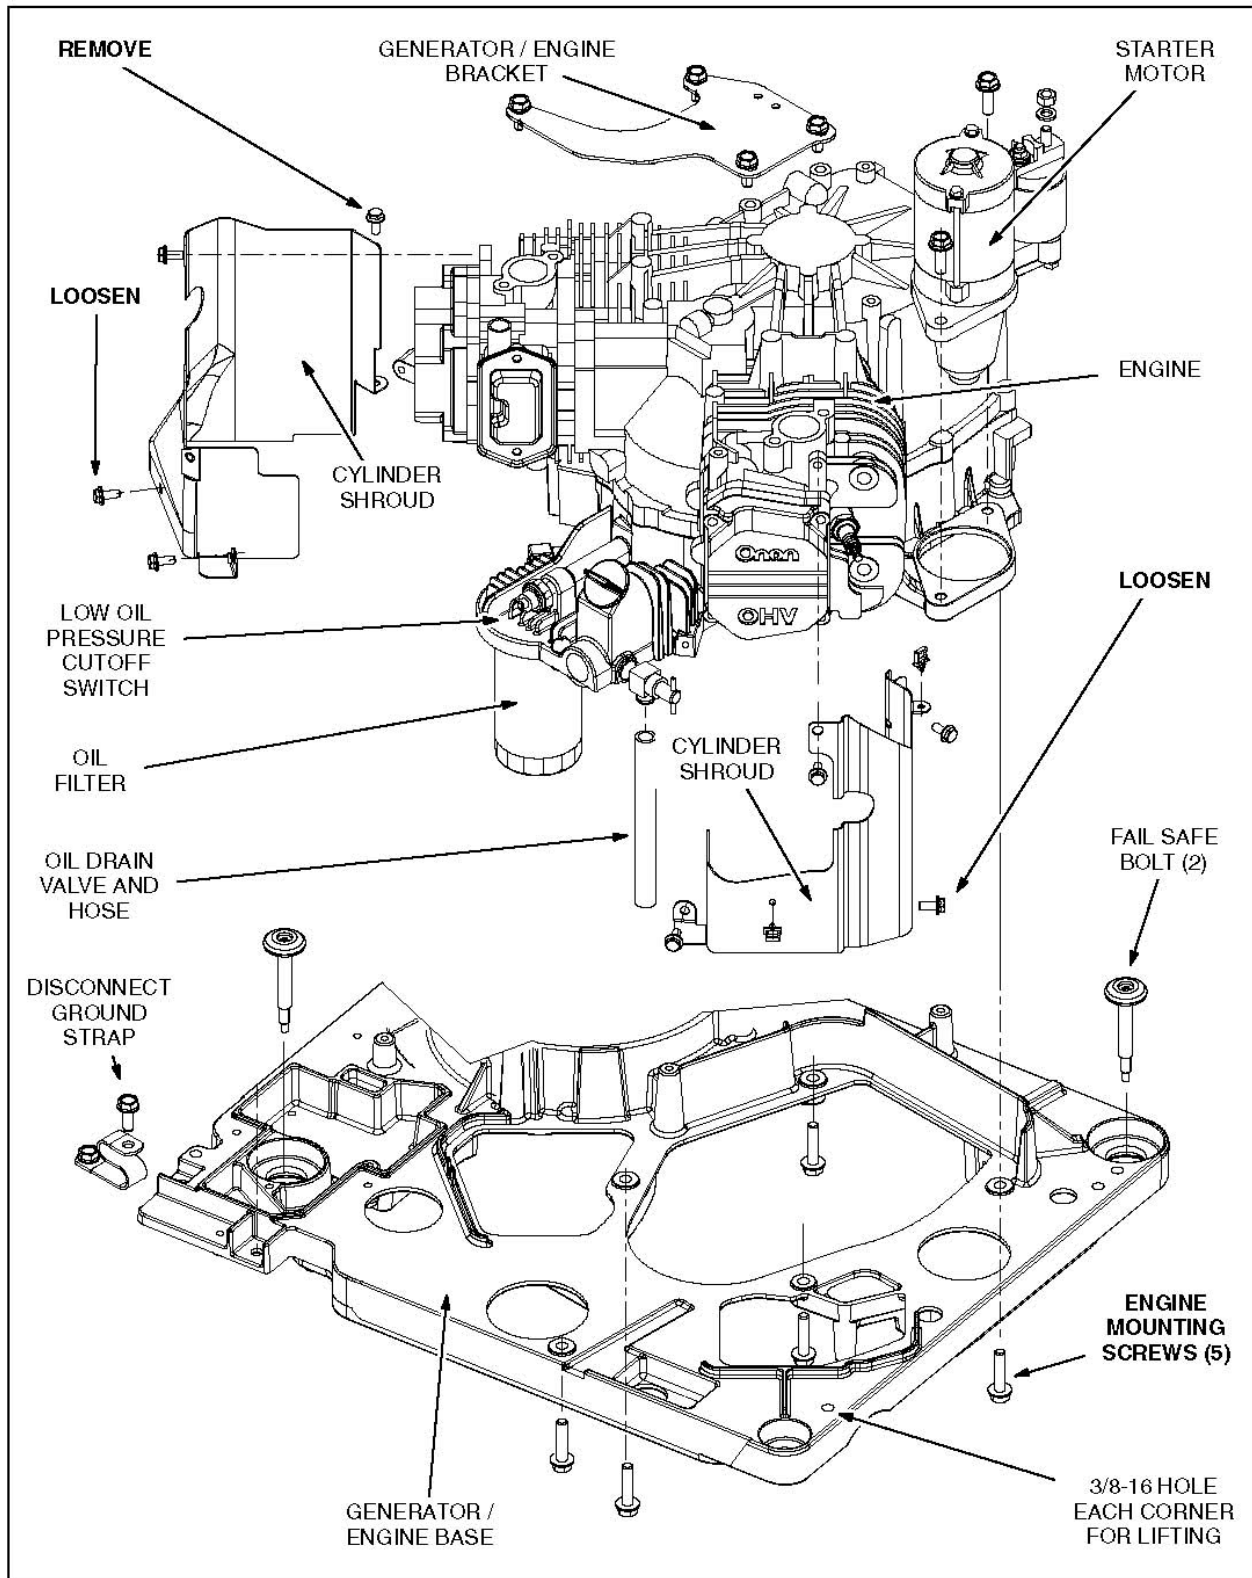

FIGURE 59. ENGINE
Figure 59 illustrates how the engine is mounted on the alternator/engine base. The flywheel, exhaust manifold and mounting bolts are accessible for removal on the bottom side of the base.
2. Remove the alternator/engine bracket and loosen, or remove the cylinder shroud screws shown in Figure 59.
- To remove the starter motor (Figure 59), disconnect all wiring and remove the two mounting screws. Follow the instructions in the starter motor kit if the starter is going to be repaired.